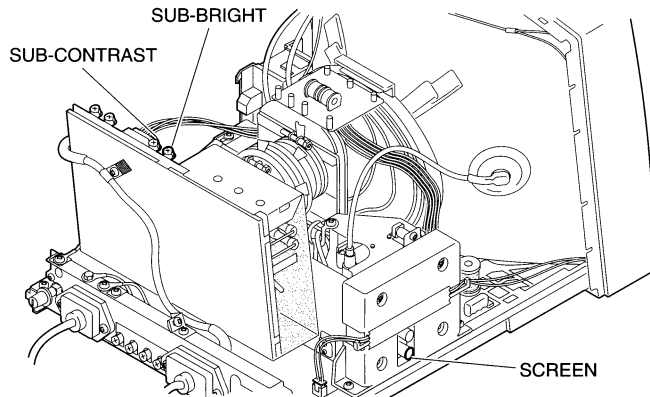

Figure 10 SUB-BRIGHT, SUB-CONTRAST, and SCREEN Controls
11. FIGURE 10. Turn up (clockwise) the SUB-BRIGHT (VR202) control until the raster is visible.
12. FIGURE 10. Adjust the SUB-BRIGHT (VR202) control until the first bar of the test pattern is black and the second bar is barely visible.
15. FIGURE 10. If the reading is incorrect, adjust the SUB-CONTRAST control (VR201) until the luminance at the center of the screen reads at the top of the "10" scale on the light meter.